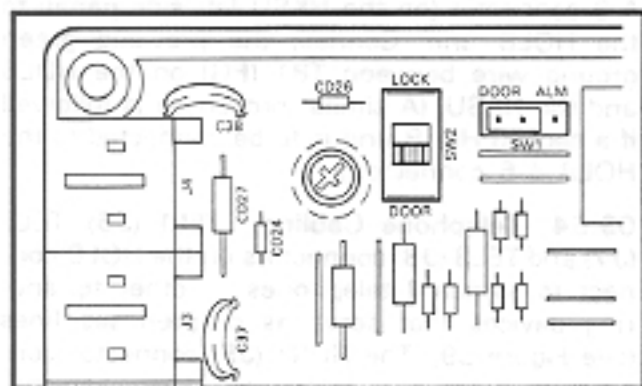

FIGURE 32—HDCB CONNECTION STRAPS
09.43 Option Switches: Remove the HDCB cover and locate (per Figure 32) SW2 and SW1 in the upper left corner (SW1 controls output C; SW2 controls output B).